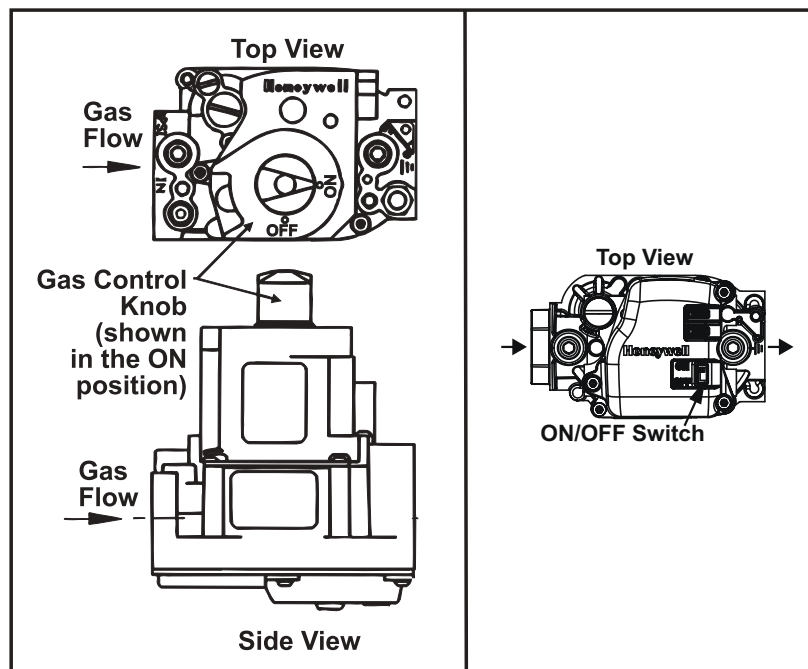

Figure 20. Gas Valve ON/OFF Control
3. Open access door and locate gas control (ON/OFF) knob or switch on gas valve (see Figure 20).